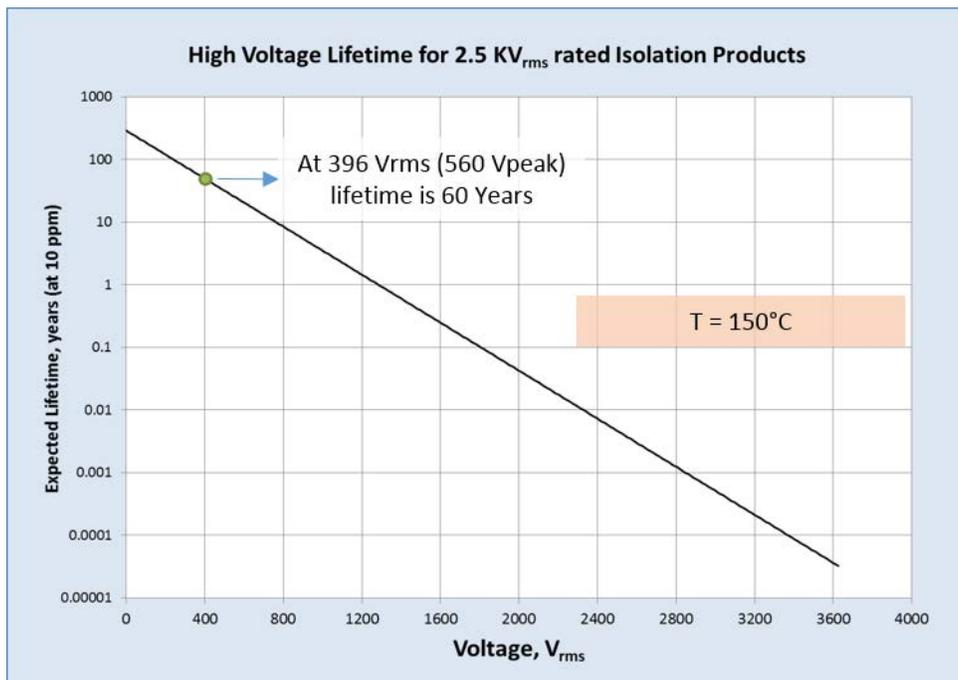

Figure 2.2. Si86xxxB Time-Dependent Dielectric Breakdown
- Updated Figure 2.2 Si86xxxB Time-Dependent Dielectric Breakdown on page 5.